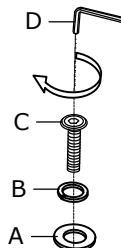

Figure 2
3. Attach the shelf to the three legs using Flat Washer (A), Lock Washer (B) and Bolt (C), tighten with the Allen Wrench (D). As Shown in Figure 2.